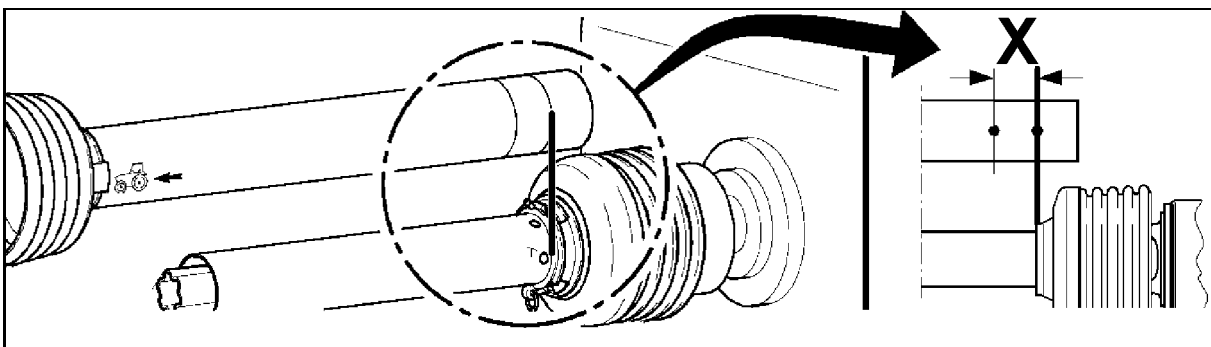

Fig. 68
6. Shorten the propeller shaft, such that the **minimum free space (X)** is at least 40 mm in its shortest operating position (Fig. 68).